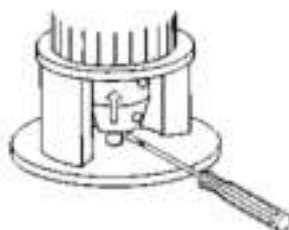

Fig. 16 Raising the coupling and the pump shaft
3. Raise the coupling and the pin as far as possible (towards the motor) with a screwdriver or a similar tool so that the pump and motor shafts touch each other. See fig. 16.